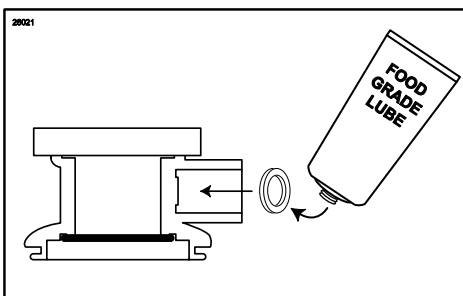

Figure 95
- Apply food-grade lube to the smaller o-ring and then place it into the Injector Head syrup line opening. A small tool may be used to ensure the o-ring is fully seated in the o-ring groove. (See Figure 95.)